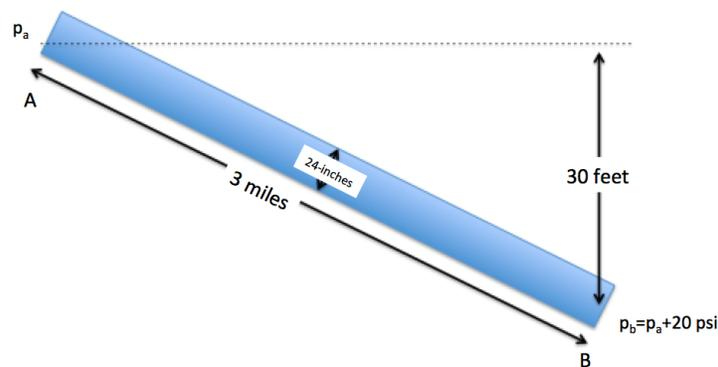

Figure 1: Pipeline Schematic
- (d) Estimate the discharge in the 3 mile long, 24-inch diameter, ductile iron pipeline connecting points A and B depicted in Figure 1. Point A is 30 feet higher in elevation than point B. The pressure at point B is 20 pounds per square-inch (psi) greater than the pressure at point A.